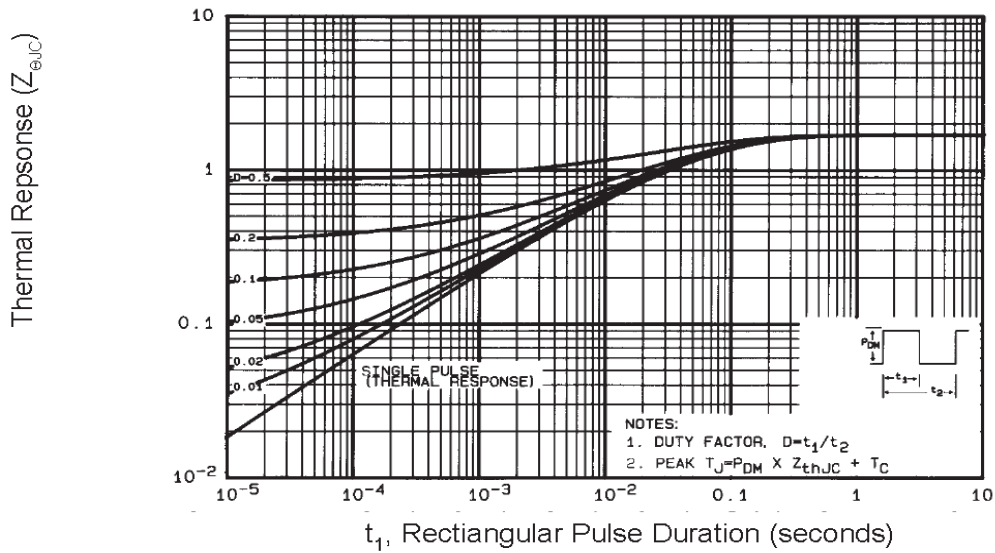

Fig. 11 Maximum Effective Transient Thermal Impedance, Junction-to-Case
① Repetitive rating; pulse width limited by max. junction temperature. (See fig. 11)
③ I_{SD} ≤ 30A, di/dt ≤ 200A/μs, V_{DD} ≤ V_{(BR)DSS}, T_J ≤ 175°C
② V_{DD} = 25V, starting T_J = 25°C, L = 0.019mH